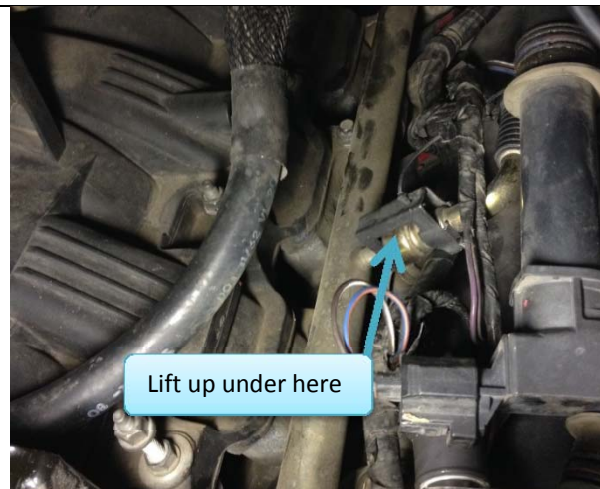

Figure 14: Fuel line safety clip.
- 10.1.1. Place a flathead screwdriver under clip at location as shown in Figure 14 and rotate and lift clip up